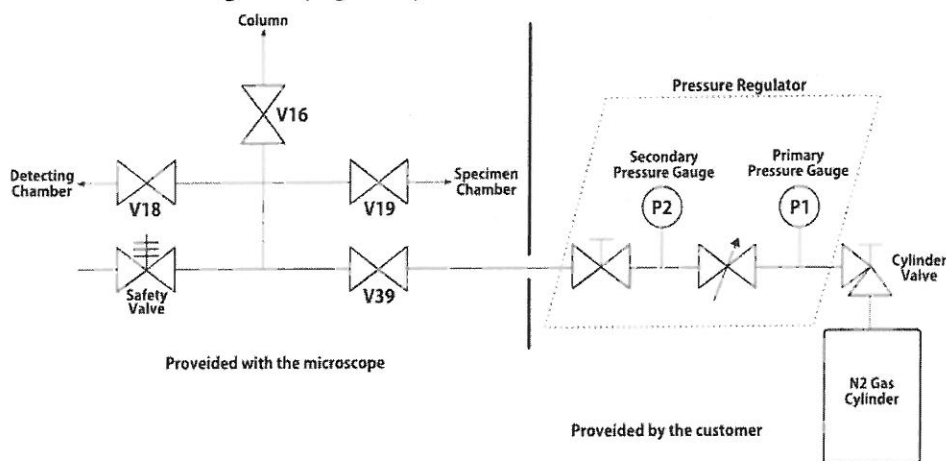

Fig. 6.16 Connection example of the nitrogen gas cylinder with the peripheral apparatuses
- ✎ The reading of the secondary side pressure gauge might temporarily decrease. If the reading does not return to the specified value, a gas leak is considered to occur in the receiving side of the gas supply. So, check the gas line of the receiving side (Fig. 6.16).